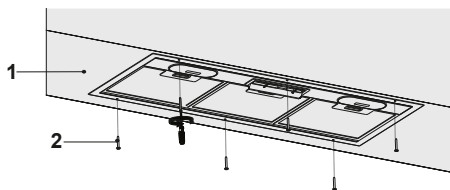

Figure 5
- Place the hood into the kitchen cabinet and attach the hood to 6 installation holes drilled before (Figure 5).